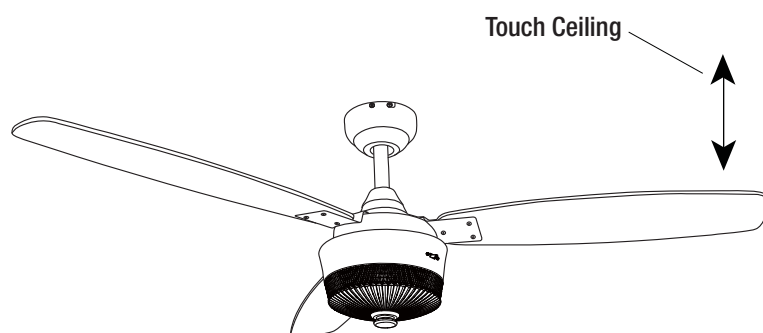

Figure 16
- Most fan wobble problems are caused when blade levels are unequal. Check this level by selecting a point on the ceiling above the tip of one of the blades. Measure this distance as shown in Figure 16. Rotate the fan until the next blade is positioned for measurement. Repeat for each blade. Measurements should be within 1/8 in.